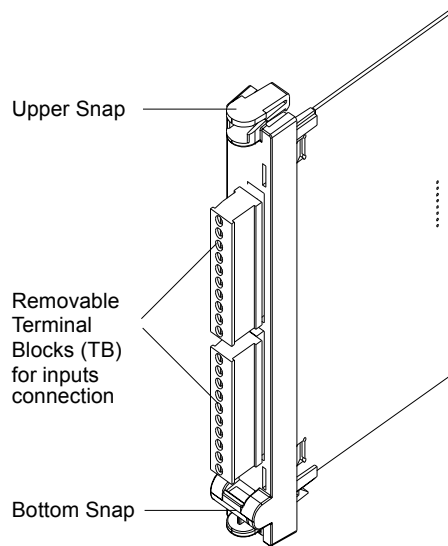

Figure 36
The 6 Analog Input (AI) module (see Figure 36) can receive up to 6 analog isolated inputs from the user equipment. The 6 AI module transfers the data to the CPU module for processing.